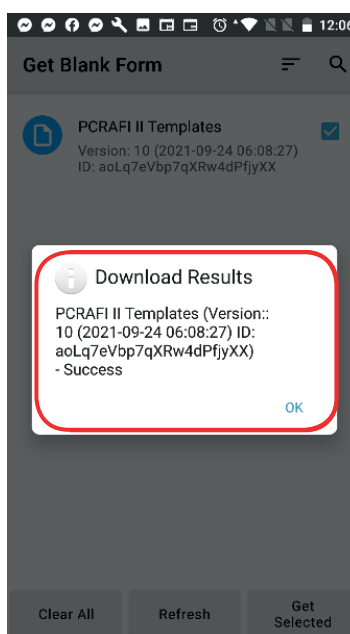

Figure 37: KoBoCollect - Successful download of form from server
4. Once this is done a notification of the templates being successfully downloaded should appear (Figures 37); you can then click on the “Return” button on the device to head back to the Home Page.